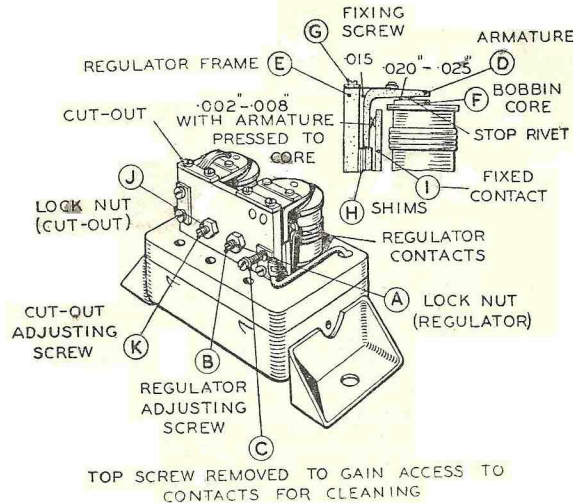

Fig. Y17. Regulator and Cut-out Adjustment and Setting.
Shut off the engine, release the locknut (A) Fig. Y17, on the regulator adjusting screw (B) and turn the screw in a clockwise direction to raise the setting, or in an anti-clockwise direction to lower the setting. Turn the screw a fraction of a turn at a time and then tighten the locknut.
The armature carrying the moving contact of the regulator is accurately set and should not be removed. If, however, it does become necessary to re-set the contacts, slacken the two fixing screws (G) Fig. Y17, and proceed as follows:—
If operation of the cut-out is outside these limits, it will be necessary to adjust. To do this slacken the locknut (J) Fig. Y17, on the cut-out adjustment screw (K) and turn the screw in a clockwise direction to raise the voltage setting or in an anti-clockwise direction to reduce the setting, testing after each adjustment by increasing the engine speed until the cut-out is seen to operate, and noting the corresponding reading.